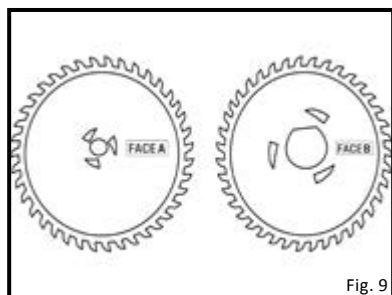

Fig. 9
1. Identify "Face 1" and "Face 2" on your new set of DUALSAW blades. (Fig. 9)